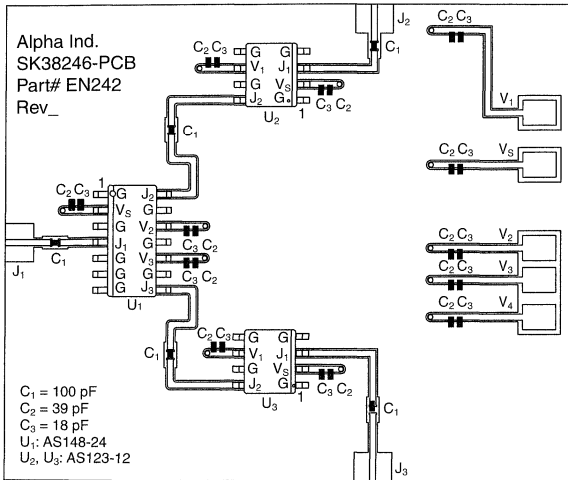

**Figure 1. Block Diagram
The ability to switch between two synthesizers is a standard requirement in GSM and PCS digital base stations. Typically the isolation required between synthesizers exceeds 90 dB. The most common design solution is to use five commercial GaAs IC switches [(1) SPDT, (4) SPST]. The benefit is that the isolation specification can be met without elaborate circuit manipulation. The downside is higher insertion loss, large PCB area and increased cost. Alpha has developed a three switch solution utilizing high isolation SPDT and SPST GaAs IC switches. Isolation values are >90 dB @ 900, 1800 and 1900 MHz. The key is to lay out the PCB so that DC to RF coupling, radiation and leakage effects are minimized. The circuit is composed of one AS148-24 SPDT and two AS123-12 SPST positive control switches. It is non-reflective at the J₂, J₃ ports (Figure 1).